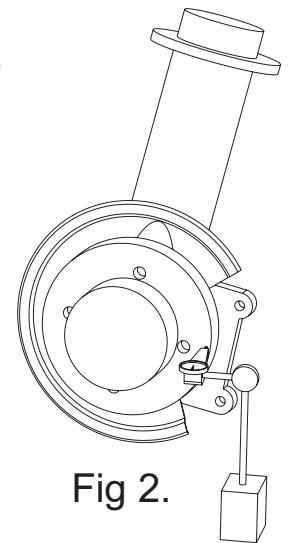

Fig 2.
- Place the magnetic base for the dial indicator solidly on the vehicle ensuring that it will not move during the measurement taking procedure. Place the dial indicator needle on the outer edge of the hub flange face (Figure 2). Ensure that the needle will not contact a fixing hole in the flange when rotated.